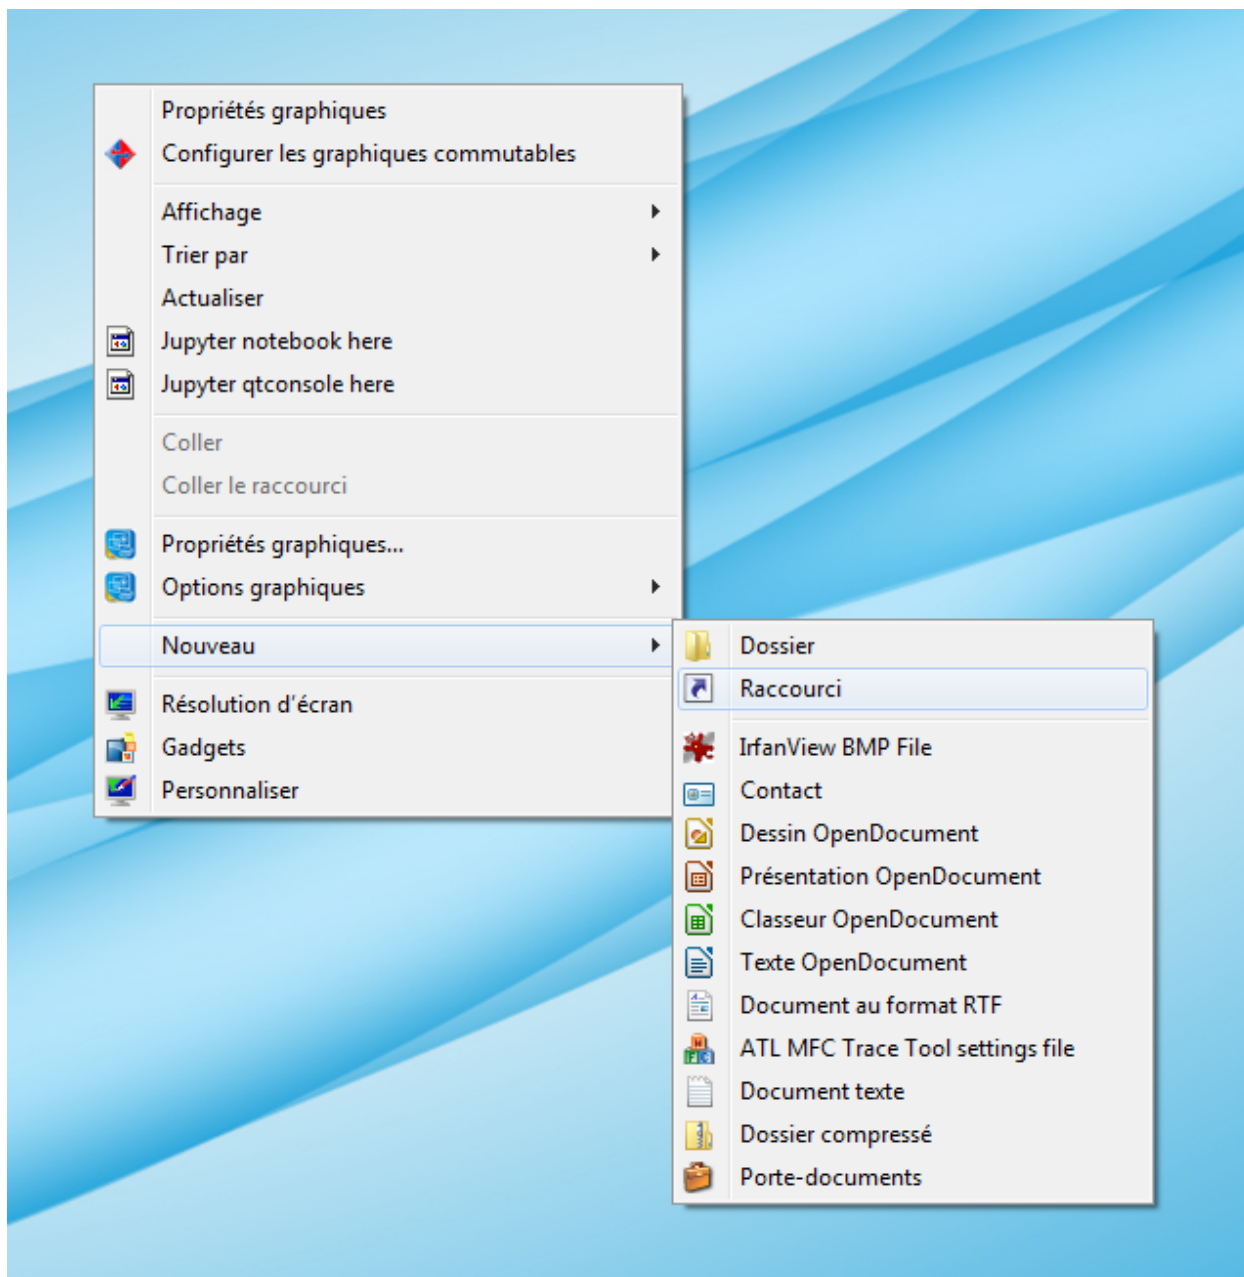

Fig. 7.5: Create a shortcut on your desktop
- First create a shortcut (see Fig. 7.5) on your desktop (pointing to any file or program, it doesn't matter)